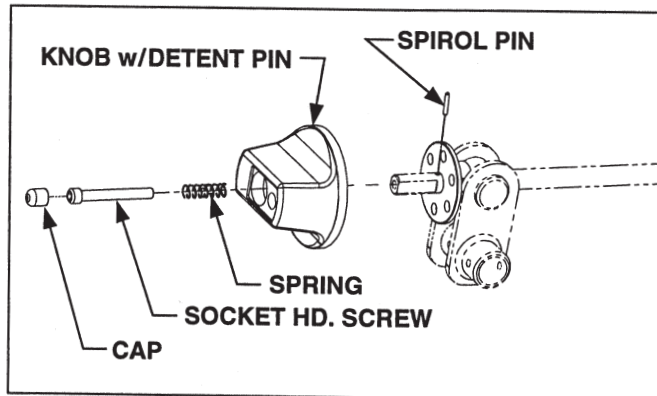

Figure 3
12. Capture the detent hub on the adjustment screw by driving the spirol pin provided with the kit into the hole in the screw (See Figure 3). Make certain the spirol pin is centered in the screw.
B. INSTALL KIT COMPONENTS. Refer to Figure 3.